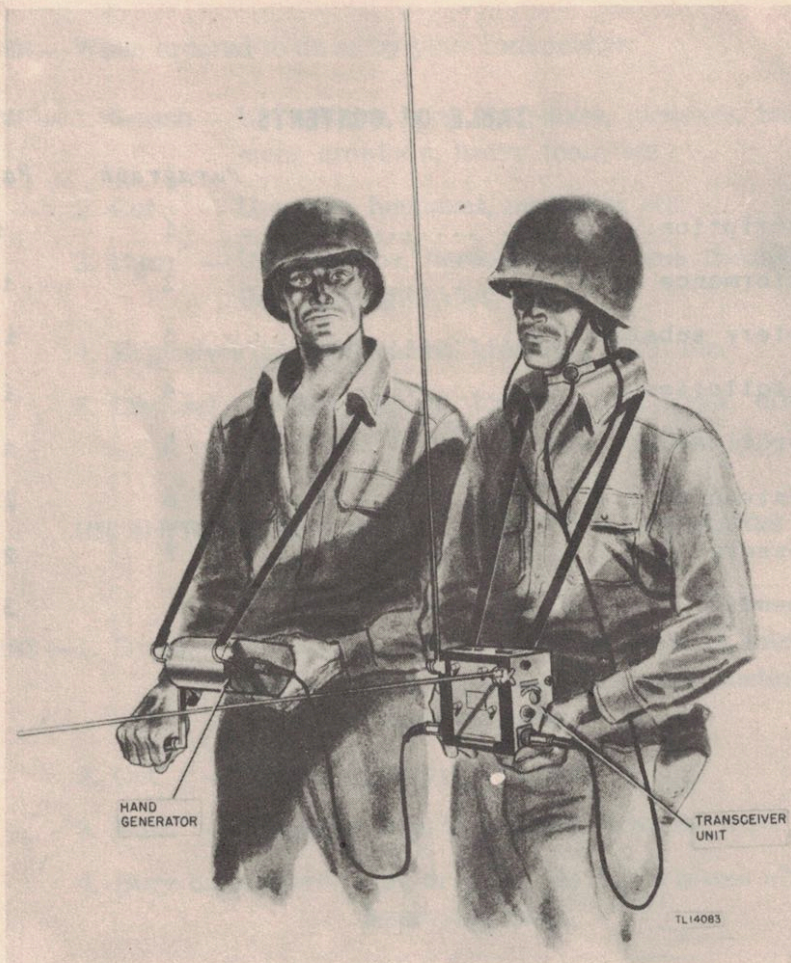
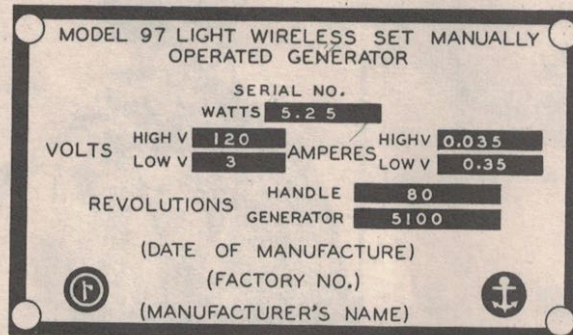
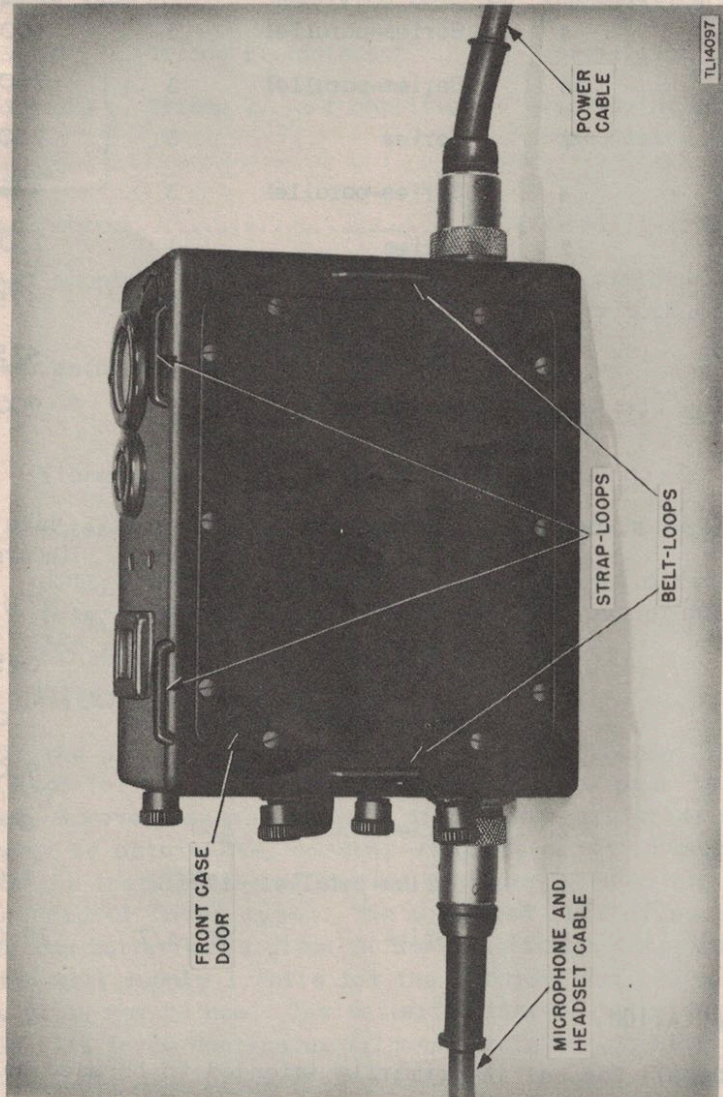

Figure 1. Japanese Radio Set Model 97 Light Wireless Set, portable operation by two men.
Figure 5. Japanese Radio Set Model 97 Light Wireless Set, portable operation by one man.
Figure 12. Japanese Radio Set Model 97 Light Wireless Set,
b. Power Supply. Power may be supplied to the set either by a hand generator or by a battery pack. The use of the hand generator to supply power, requires two men for operation of the set (fig. 1). When it is desired that the set be transported and operated by one man (fig. 5), a battery pack is used to supply power.
a leather strap passed around the neck and fastened to the set through two strap-loops on the case. When a battery pack is used to provide the power supply, one man can carry and operate the entire set (fig. 5). If American type batteries are used to make up the battery pack, it may be necessary to discard the Japanese carrying case because of size limitations. If so, carry the battery pack in a musette bag or similar type of case. Two belt-loops (fig. 12) on the front of the transceiver unit case enable the operator to strap the set close to his body and prevent excessive movement during portable operation. For operation of the set as a fixed installation, the transceiver unit is placed on a firm supporting structure and the hand generator, if used, is mounted on a supporting stand by means of the base plates.